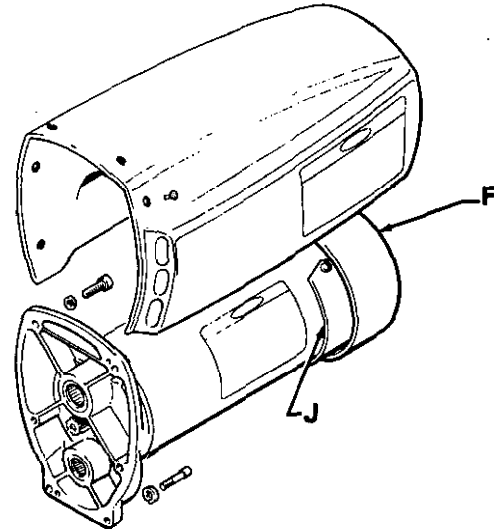

Fig 10
Remove the pressure control cover and screws, the motor cover, the fan cover (F), and the inspection covers (J). See Fig 10.